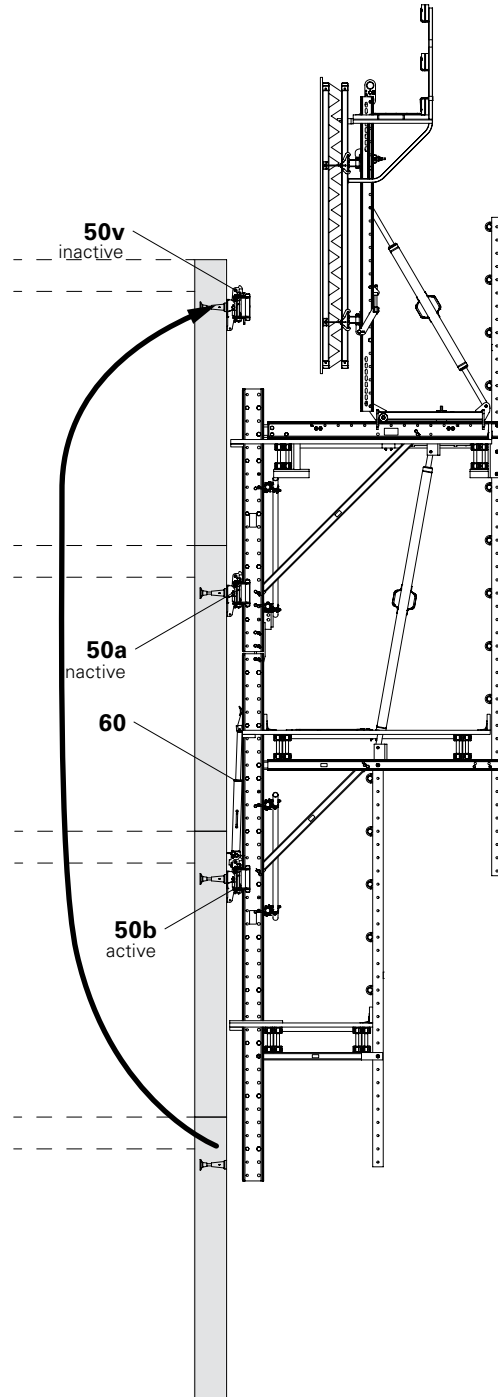

Fig. D7.03
3. Raise the climbing unit from the middle Climbing Shoe with the Climbing Device (**60**) in 50-cm increments. (Fig. D7.03)